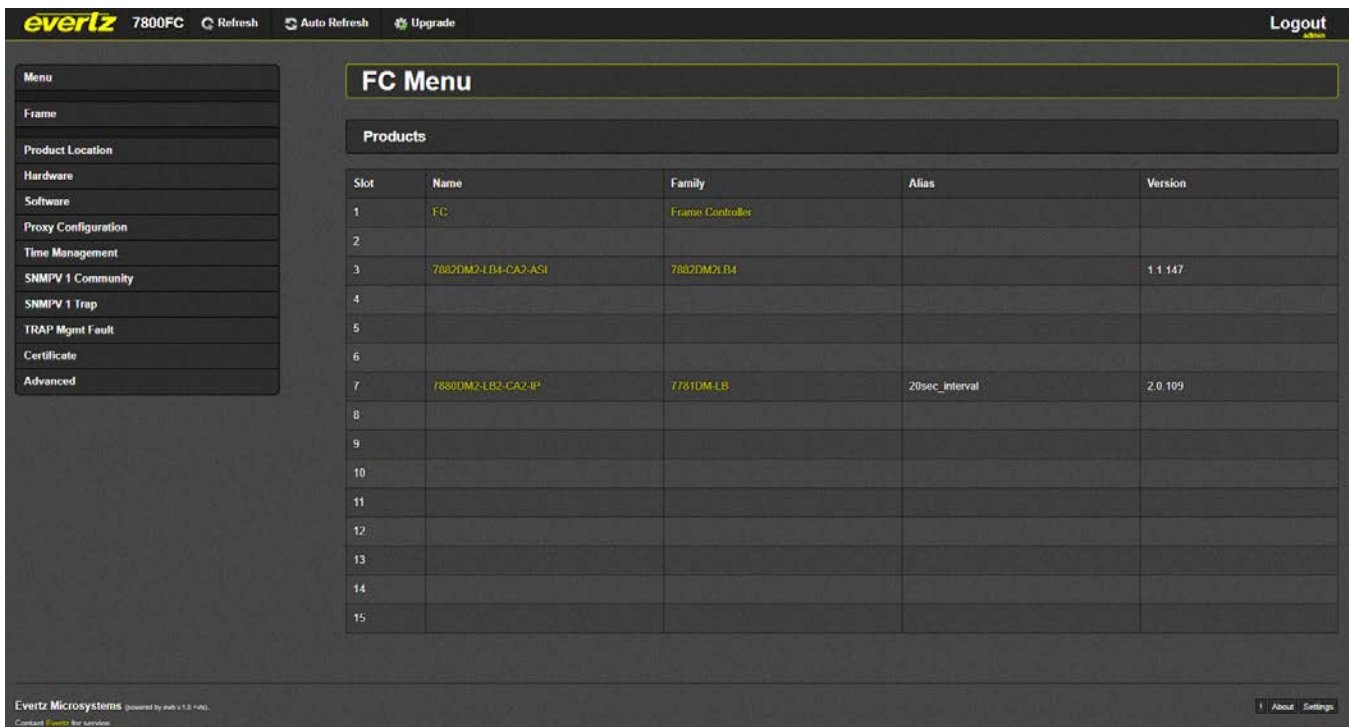

Figure 2-5 : WebEASY® - FC Menu
4. The user will be directed to the Frame Controller (FC) Menu as shown in Figure 2-5. To access the 7882DM2-LB4-CA2-ASI (slot 3 in this example) web controls, click on the link under the Name column in the Products section.